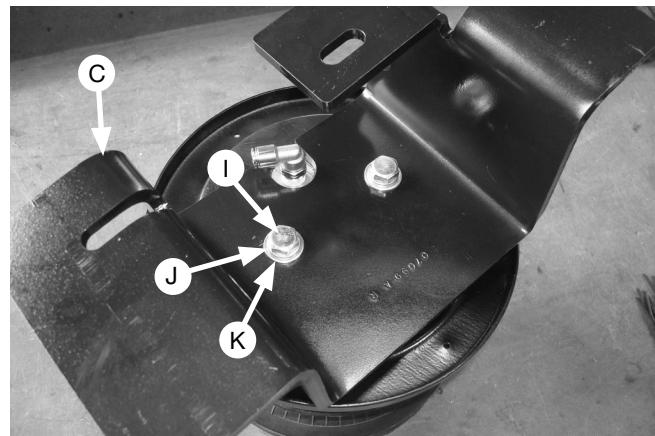

Fig. 5
2. Set the upper right-hand (C, pictured) and left-hand (D) air spring brackets onto the air spring assemblies and attach with 3/8" hex-head cap screws (I), lock washers (J) and flat washers (K) (Fig. 5). Torque to no more than 20 lb.-ft. (27Nm).